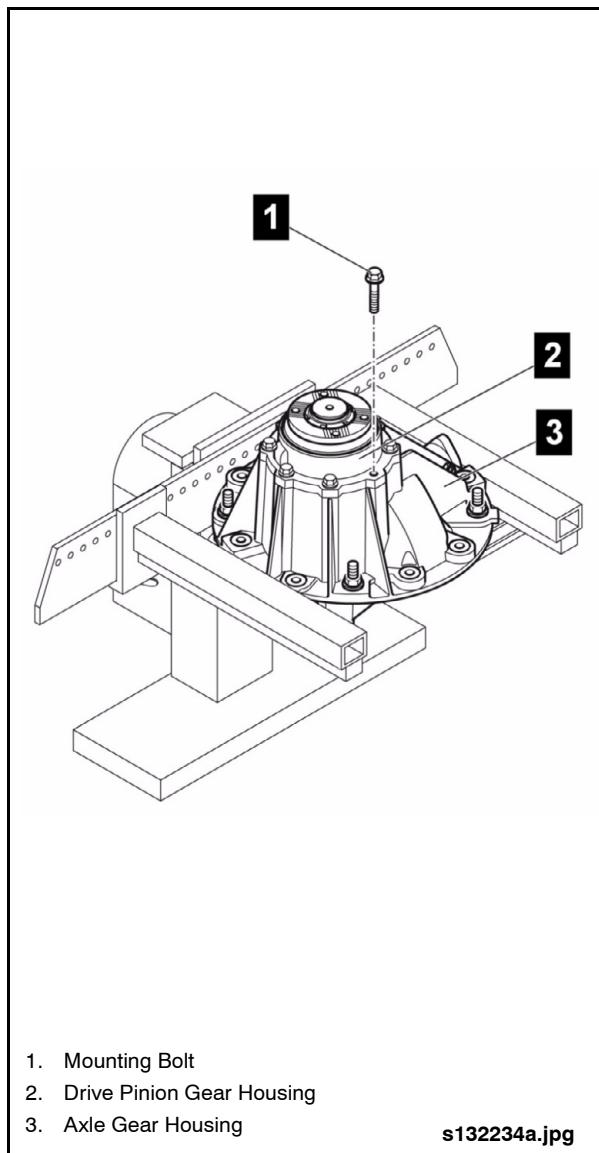

Fig. 2-77: Drive Pinion Gear Housing Removal
1. Position the axle gear housing in the Universal Holder (Item 48 from Special Tools List) with the pinion input flange facing up. See "Fig. 2-77: Drive Pinion Gear Housing Removal" on page 63.